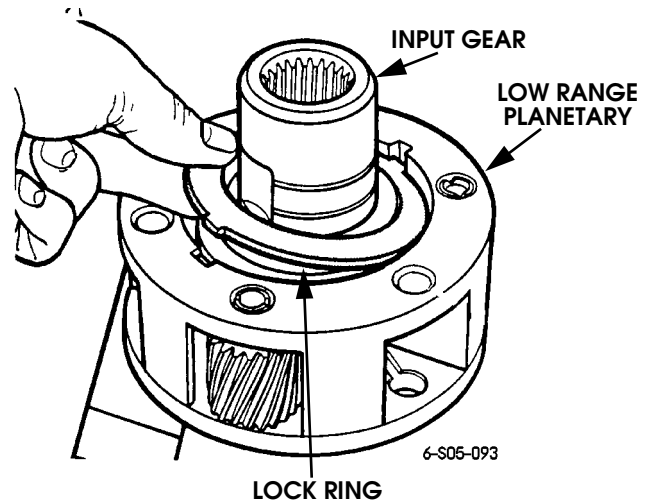
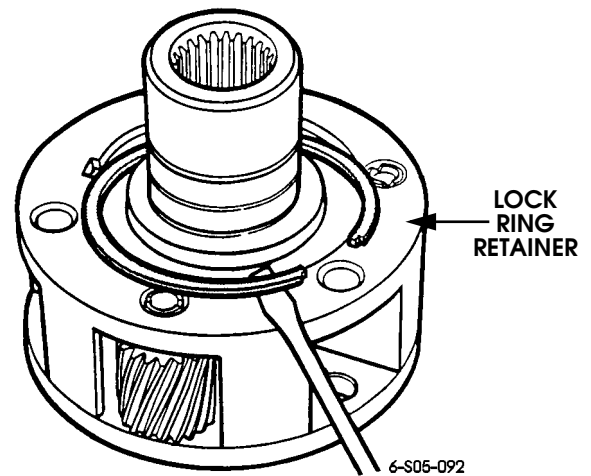

Figure 5-134: Lock Ring Installation
Figure 5-135: Input Gear Snap Ring Installation
- e. Install lock ring (Figure 5-134) and lock ring retainer (Figure 5-135).